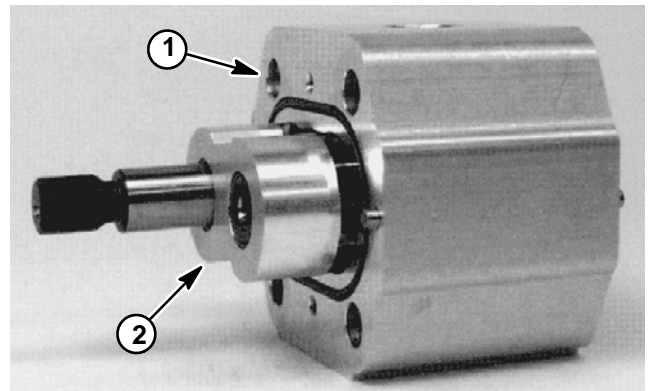

Figure 85
7. Place motor on its side and push on the rear bearing block to remove bearing block and gear set (Fig. 85).